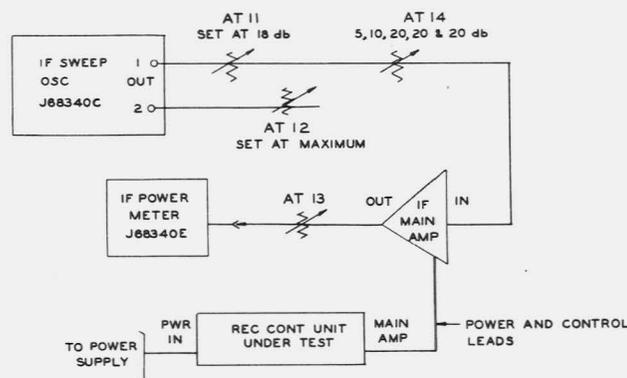

Fig. 11 - Arrangement for Testing the Regulation of the IF Output by the Receiver Control Unit
- (1) Connect test equipment to receiver control unit under test as shown in Fig. 11. Turn sweep off, and set sweep oscillator at 70 mc, using index mark on sweep motor shaft. Set attenuator AT13 for 13 db attenuation before connecting power meter. Set controls on control unit as follows: